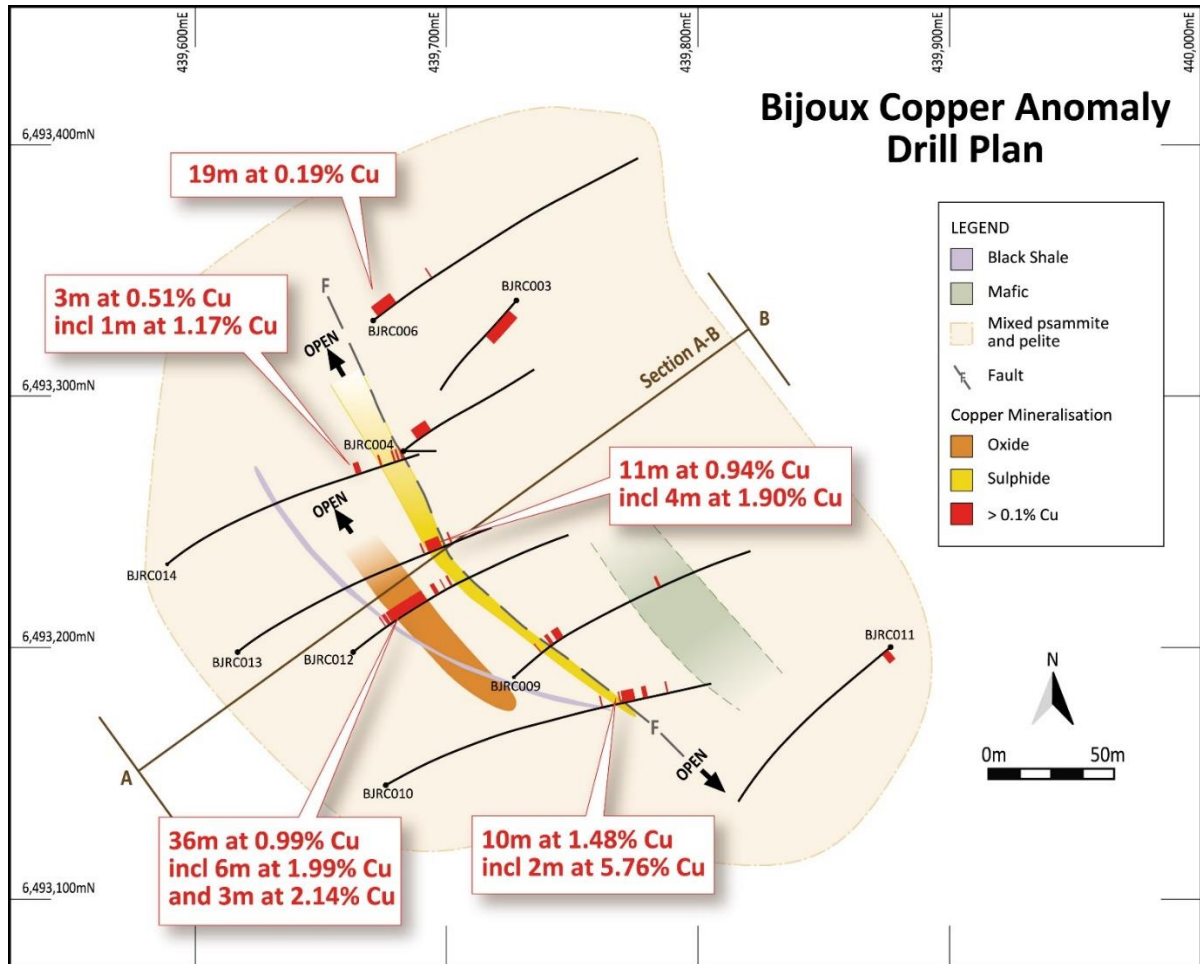

Figure 2 – Bijoux RC drilling plan showing interpreted geology and copper intercepts.
Scout Reverse Circulation (RC) drilling at Bijoux in the southern Rochford Trend was completed in late 2023. A total of nine RC holes (BJRC006 to BJRC014) for 1,716m were completed (**Figure 2**)⁴. Copper mineralisation was reported from all nine RC holes. The following significant copper intercepts in both the oxide and sulphide zone at the prospect include:
The copper intercepts outlined a 200m NNW-trending mineralised zone within Ordovician aged Girilambone Group rocks that dip steeply to the NNE and is open to the NNW and SSE (**Figure 2**). To date, only 200m of the strike extent of the 1.6km long Bijoux copper anomaly has been tested by RC drilling.